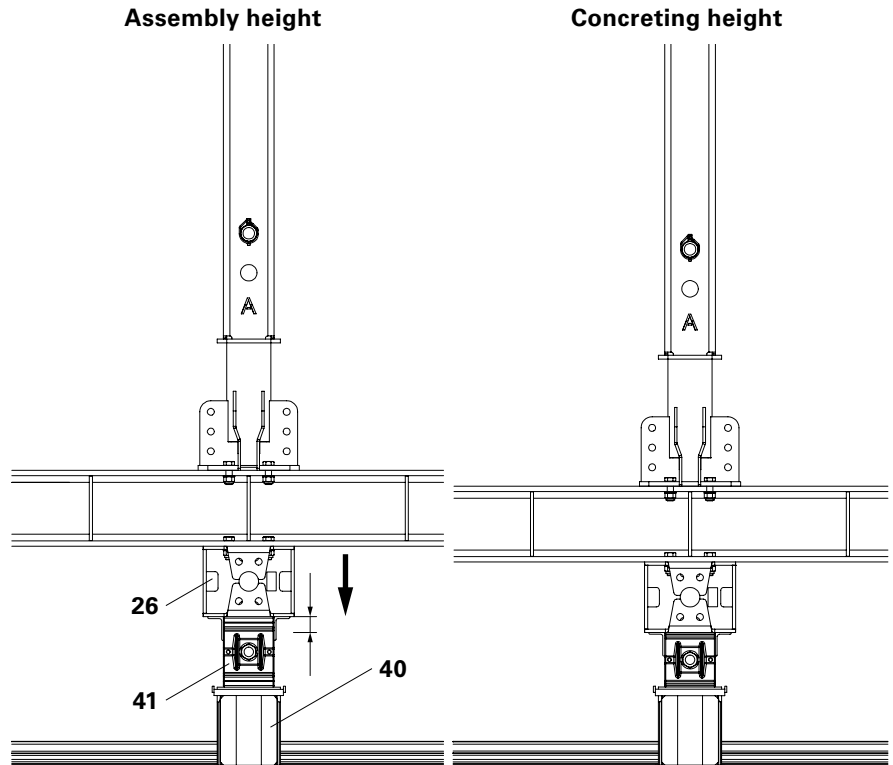

Fig. D1.02
3. Lower the Tunnel Formwork Carriage to the concreting height with the help of the Wedge Lowering Devices (41), and then align.
4. Support each Support Wedge Box (26) with a Wedge Lowering Device (41) and a Brace Support (40).
5. Extend the Wedge Lowering Devices (41) so that they can accommodate the weight of the Tunnel Formwork Carriage. (Fig. D1.02)